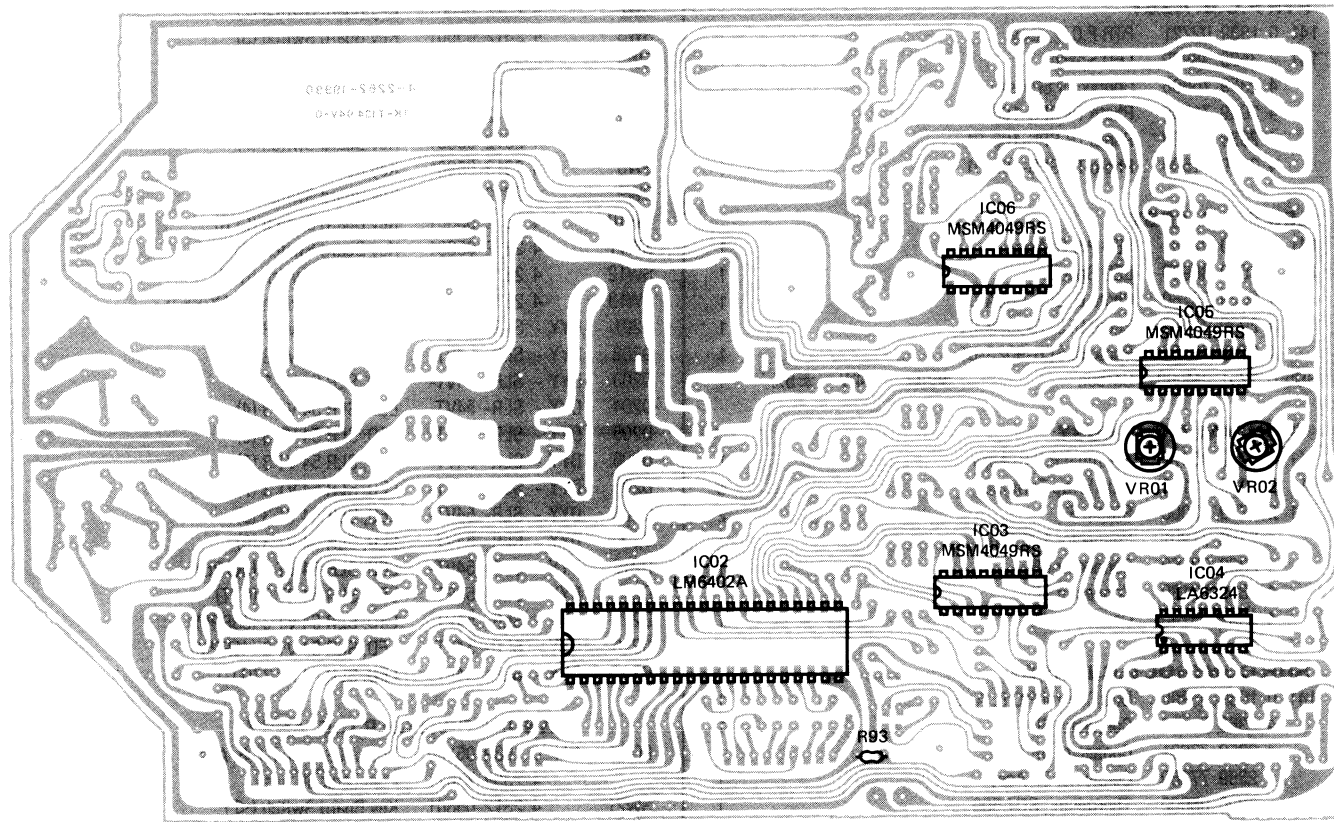

Fig. 8
4. If not, cut off R93 (3.3k Ω) on the Control P.C.Board and perform the re-confirmation. (Fig. 8)